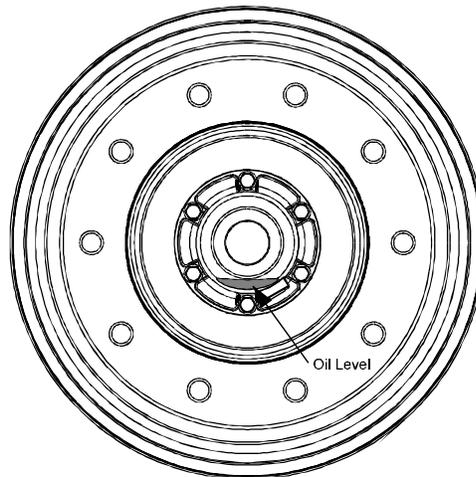

Figure 5 - Wheel Bearing Oil Level
4. Check oil level through hub cap window. If level is below the “add” level line then remove the pipe plug and fill with recommended oil until “full” level is achieved. **(Figure 5)**. Add oil slowly since the heavy weight oil will settle slowly in the hub.